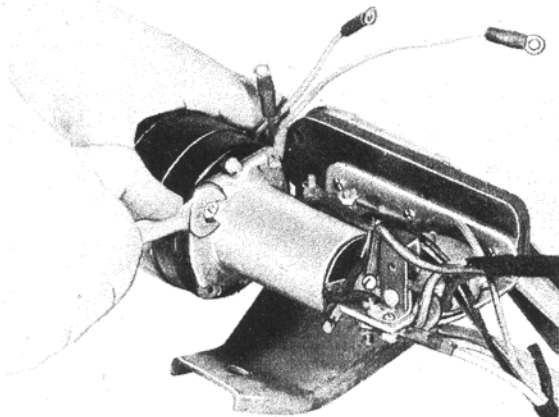
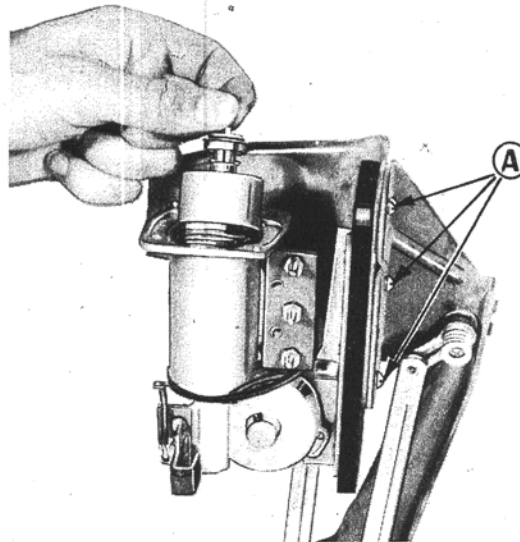

Figure 7 Removing Motor
Figure 9 Installing Coil, Shaft and Contacts Assembly
2. Remove two nuts and washers holding motor to housing (See Figure 7). This allows all parts inside housing to be removed. Coil may fit rather tight in housing, but can readily be removed by pulling on shaft (See Figure 9).
5. Place coil, shaft and contacts assembly in housing (See Figure 9).
2. Remove three screws and lock washers ("A", Figure 9), allowing entire drive unit and bracket to be removed from frame.